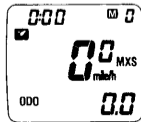

Fig. 5
1. Press the mode button for 2 seconds until "Display (C)" appears. (See Fig. 5.)
4. Press the mode button. The digits for "hours" flicker. Press the start/stop button to advance the flickering digits. Press the set button. The "Display (C)" appears, and 24HR clock time setting is completed.